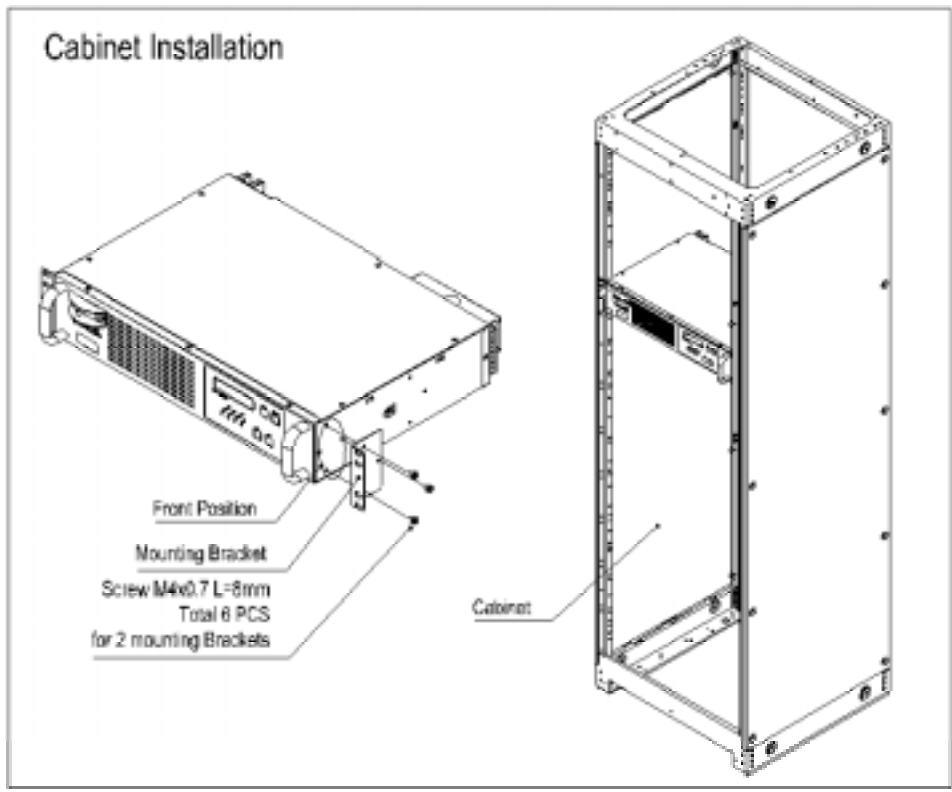
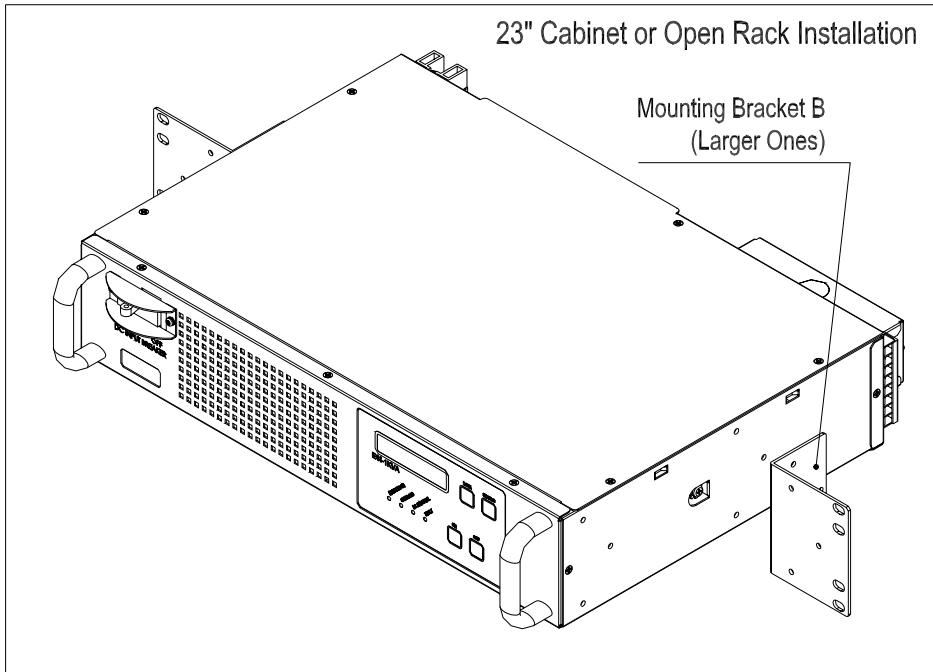

Figure 2. Cabinet Installation
Figure 6. 23" Cabinet or Open Rack Installation
For Cabinet mounting to a "19 or 23 " Cabinet, the mounting brackets should be installed to ESI Inverter's "Front Position" (**Fig. 2**)
- For 23" installation, 2 PCS of "Mounting Bracket B" are used (**Fig. 6**).
Following below (**Fig. 2**) to (**Fig. 6**) process instruction to mount the ESI inverter into the rack or cabinet.